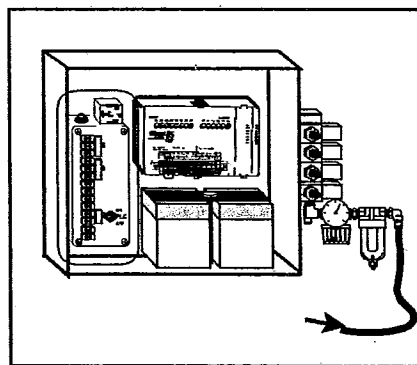

Fig. 2 D05, 4 Valve
- 2) 4 valve for awnings with sealed Gas Rafter arms; Fig. 2 and exhibits **C & D**.